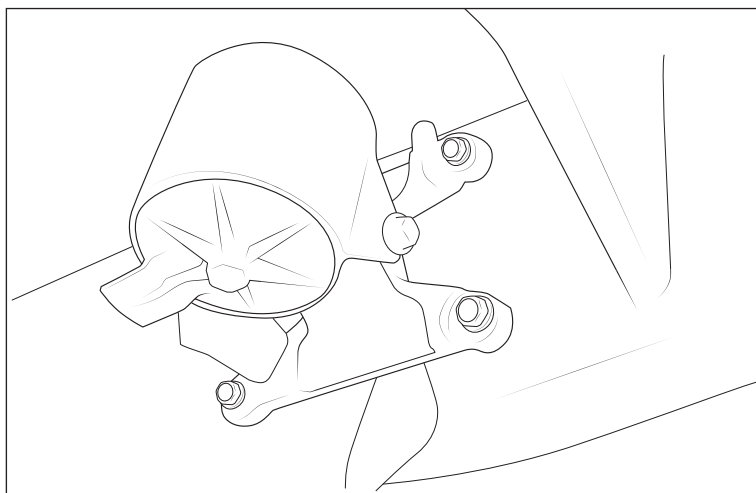

Figure 10
- B. GASOLINE TRUCKS ONLY: Remove active vibration dampers from framerail and wiring harness (fig 10).